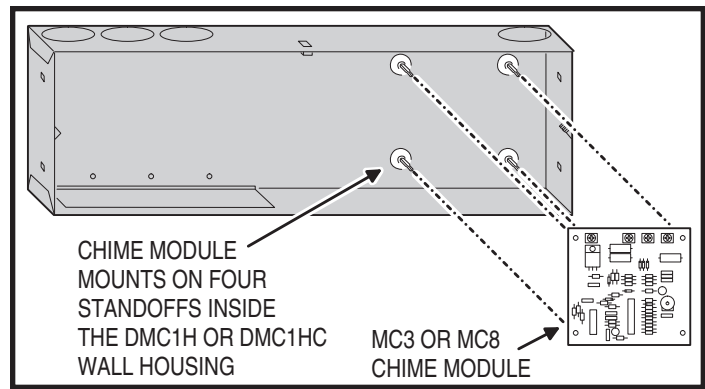

Figure 13. Optional Chime Module Installation
1. Install the chime module circuit board by snapping it onto the four plastic mounting standoffs in the wall housing. See Figure 13.